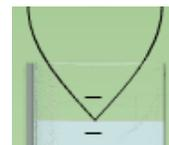
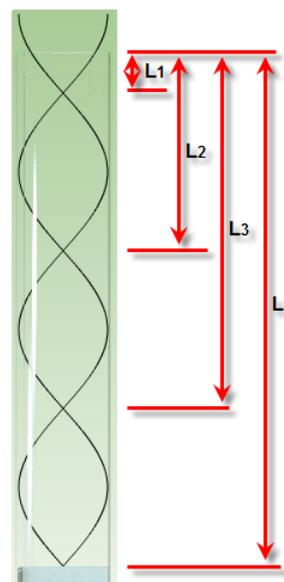

Figure 2 – First Node
Figure 3 – Nodes 1-4
Now adjust the water level to about 17 cm. The volume reaches a maximum at about that point. So where's all that sound coming from? Actually it's more like *when*. (More on this in a moment.) This would be a good time to adjust the "Volume Control" to zero! Drag the "wave display adjustment slider" until the wave display behind the water looks something like Figure 2.
Figure 2 shows the shortest air column that will produce resonance (the magnified sound) for a frequency of 261.63 Hz. This length is $\frac{1}{4}$ of the wavelength of this sound in air at 0 °C. One fourth of a wavelength is the shortest wave that satisfies the *boundary conditions* for a standing wave in a closed air column. By boundary conditions we mean the conditions necessary at certain key positions in the medium for resonance to occur.
(In this document the terms “node” and “antinode” will always refer to the displacement of air molecules. At a *displacement node* the air molecules do not move relative to where they would be when no wave is present. (Bottom of Figure 2.) In a *displacement antinode* the molecules are moved a maximum distance relative to where they would be when no wave is present. (Top of Figure 2.) The other use of the terms refers to pressure. At a pressure node the pressure is always equal to the pressure that would exist when no wave is present. (Top of Figure 2.) At a pressure antinode the pressure differs by a maximum amount relative to the pressure that would exist when no wave is present. (Bottom of Figure 2.) Note that these two are the reverse of each other.)
- We'll continue with the same conditions – room thermostat set to 0 °C, air in the tube, C4 selected, and the wave display set for a node at about 17 cm as in Figure 2. Turn the volume on so you can hear the sound. Drag the reservoir as far down as it will go. As the air column lengthens you should hear three more pulses of maximum loudness. Each of these indicates air column lengths that satisfy our two boundary conditions. That is, they indicate additional nodes. See Figure 3.
If we label the locations of the four nodal points as shown in Figure 3 we can calculate the wavelength of our sound waves in a number of ways. In the three equations labeled Equations 2-4, each λ represents a calculation of the wavelength of our sound wave.